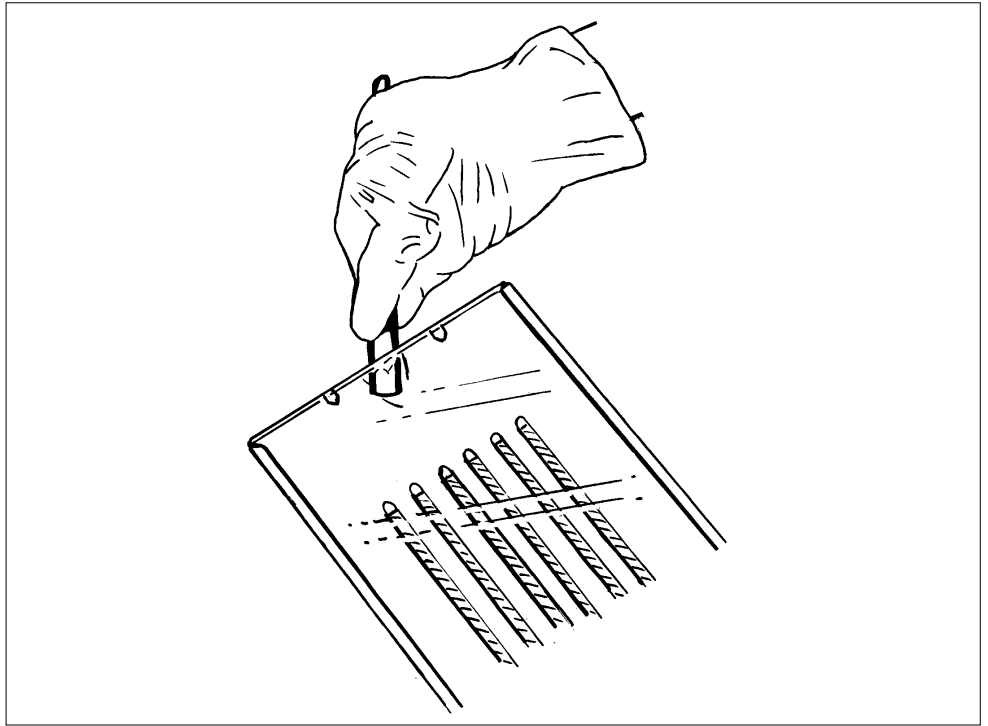

Fig. 10.
- Open the cassette by prying apart the plates (Fig. 10).